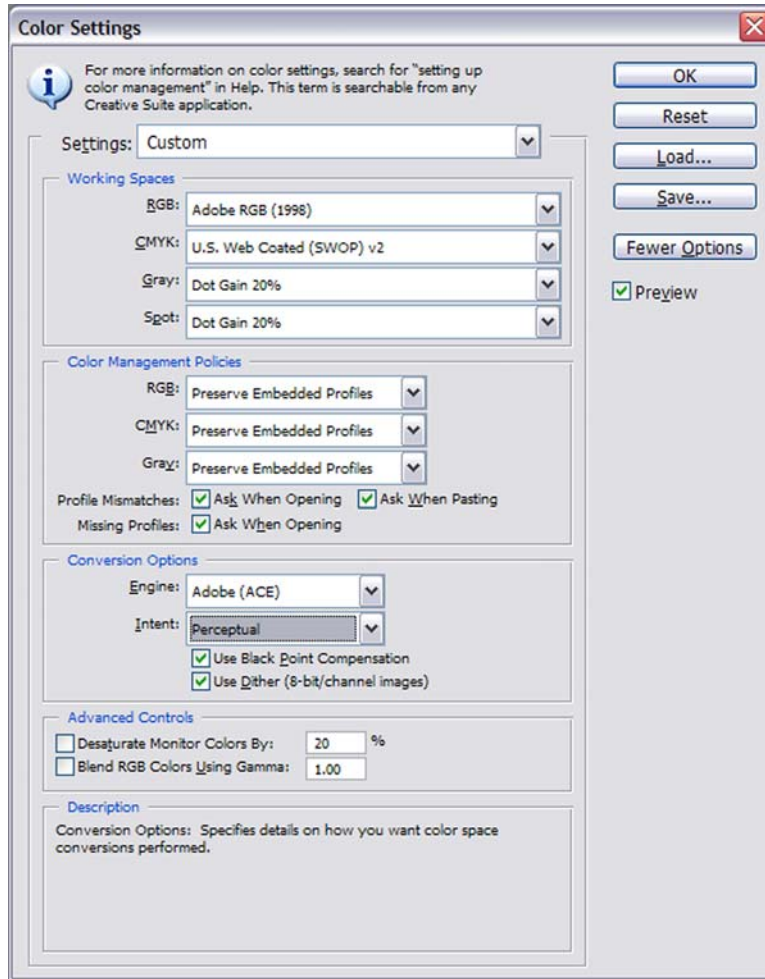

FIGURE 1-1 Photoshop Color Settings for commercial offset printing
Begin by establishing the correct default color settings for Photoshop. (If you’re using a different image editing application, set its default color settings to values that are similar to Figure 1-1.)
1. Choose **Edit > Color Settings**, then click **More Options** to display the entire dialog box (Figure 1-1).
3. If your print vendor has supplied you with an ICC profile for the press and paper that will be used to print your job, select that profile in the **Working Spaces: CMYK** dropdown list. Otherwise, ask your print vendor to tell you whether your job will run on a sheet-fed or web press, and whether the paper will be coated or uncoated.² Then choose the CMYK working space that most closely matches the press setup. In Figure 1-1, we’ve taken the default: **U.S. Web Coated (SWOP)** profile.